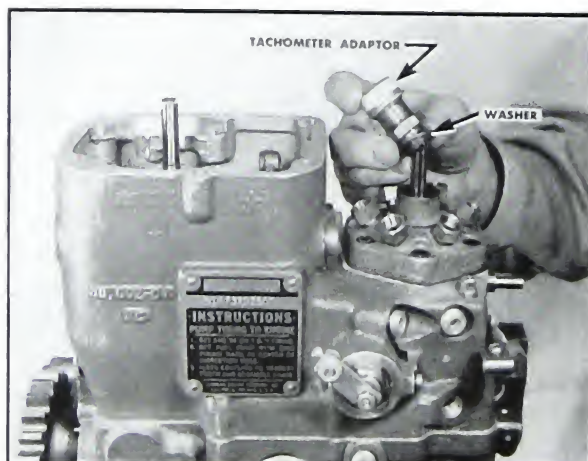

Fig. 5-340. Replace tachometer adapter
5. Replace the tachometer drive adapter, copper washer and cover. Fig. 5-340.